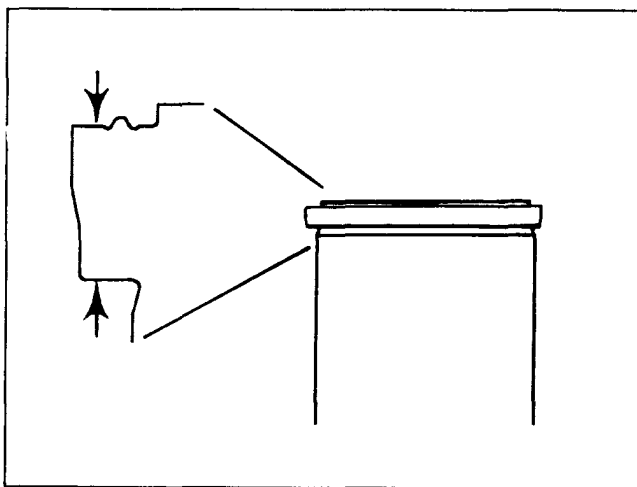

Fig. 1-2, (N101114). Cylinder liner flange thickness measuring point
1. Check upper liner counterbore and remove burrs, dirt, etc., so liner will enter without distortion. If counterbore exceeds limits listed in Table 1-1 (2) for the top 0.250 inch [6.35 mm] depth, mark blocks for counterbore repair. The counterbore ledge must be smooth and perpendicular to the liner bore to within 0.005 inch [0.13 mm] total indicator reading. Use a straight edge to check flatness of top of block. Refer to "Top Surface Refinishing".
2. Check counterbore depth so installed liner will be assembled to correct protrusion and to determine if refinish of counterbore surface is necessary. Depth of counterbore on a new block is listed in Table 1-1 (2). If worn to or beyond limit, the cylinder block must be salvaged using ST-1295 or 1065 Cylinder Liner Bore Salvage Tool or replaced. If worn less than worn limit, the surface can be refinished and shims installed under the cylinder liner to restore proper protrusion.
- a. Measure liner flange thickness with micrometer. Do not include bead on top of liner flange in taking measurement. See Fig. 1-2.